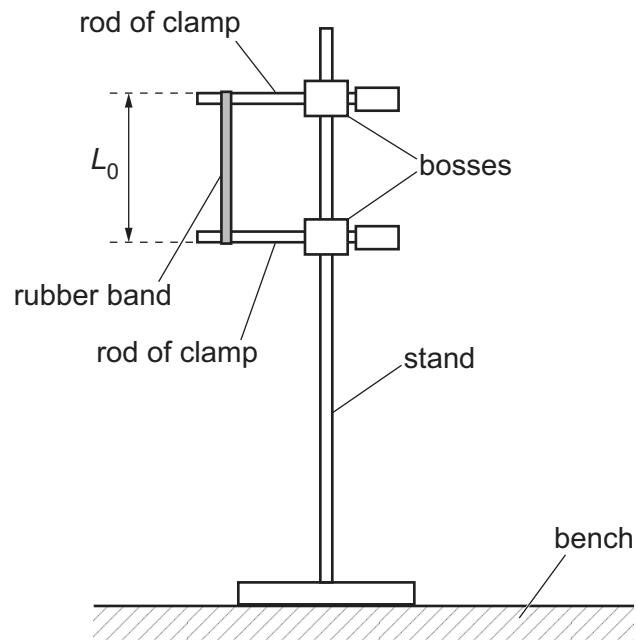

Fig. 2.1
- (a) (i) • Set up the apparatus as shown in Fig. 2.1.
The distance between the ends of the rubber band is L_0 , as shown in Fig. 2.1.